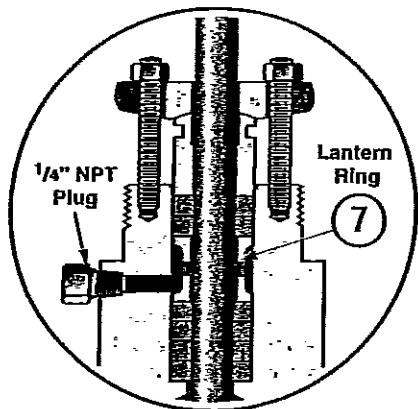

Figure 5 - Leak Detection Connection (Optional)
- J. If a leak detection circuit was installed, connect it on the lateral NPT port of the bonnet. If not, insure that the 1/4" NPT plug is remained in place. (Figure 5).
J. If a leak detection circuit was installed, connect it on the lateral NPT port of the bonnet. If not, insure that the 1/4" NPT plug is remained in place. (Figure 5).